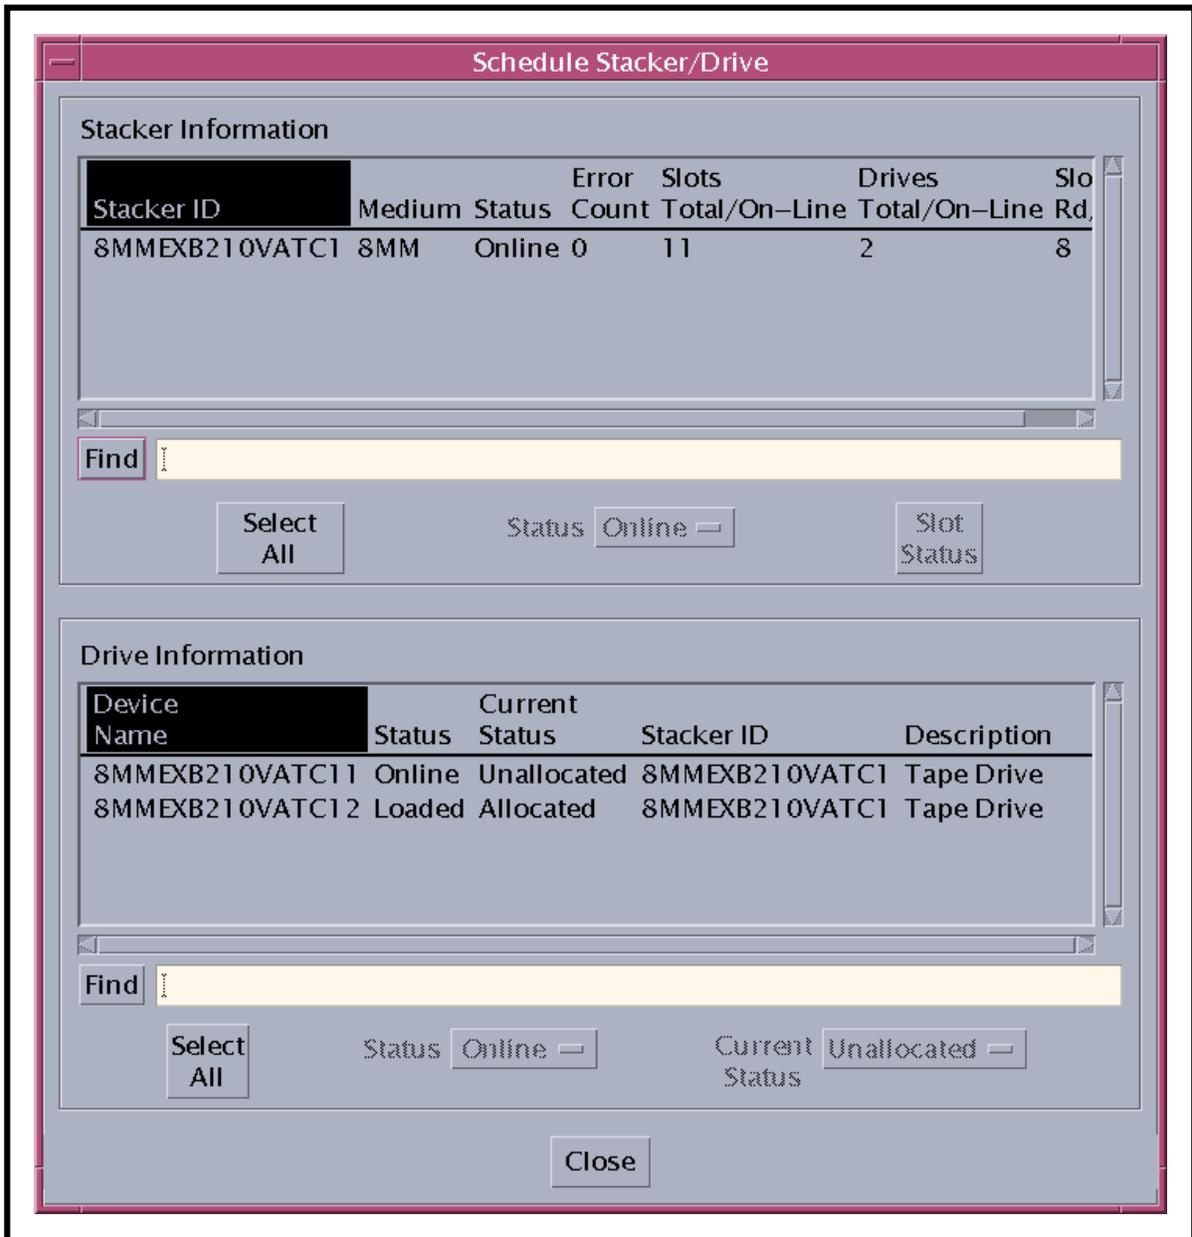

Figure 19. Schedule Stacker/Drive Window (Storage Management Control GUI)
- The **Schedule Stacker/Drive** window (Figure 19) is displayed.
- 7 Observe the information displayed in the **Stacker Information** window near the top of the **Schedule Stacker/Drive** window (Figure 19).
- 9 Observe the information displayed in the **Drive Information** window near the bottom of the **Schedule Stacker/Drive** window (Figure 19).